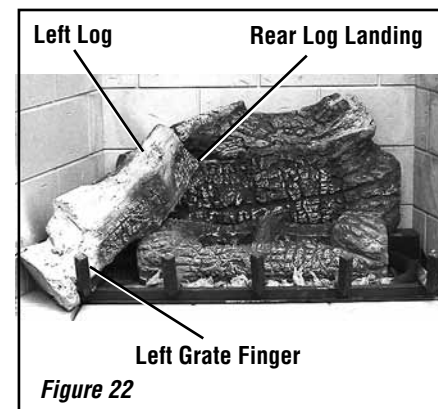

Figure 22
Step 3. Place the left log as shown in **Figure 22**, on the landing of the rear log. Make sure the landing on the front end of the log is resting on the first left finger of the grate, as shown in **Figure 22**.